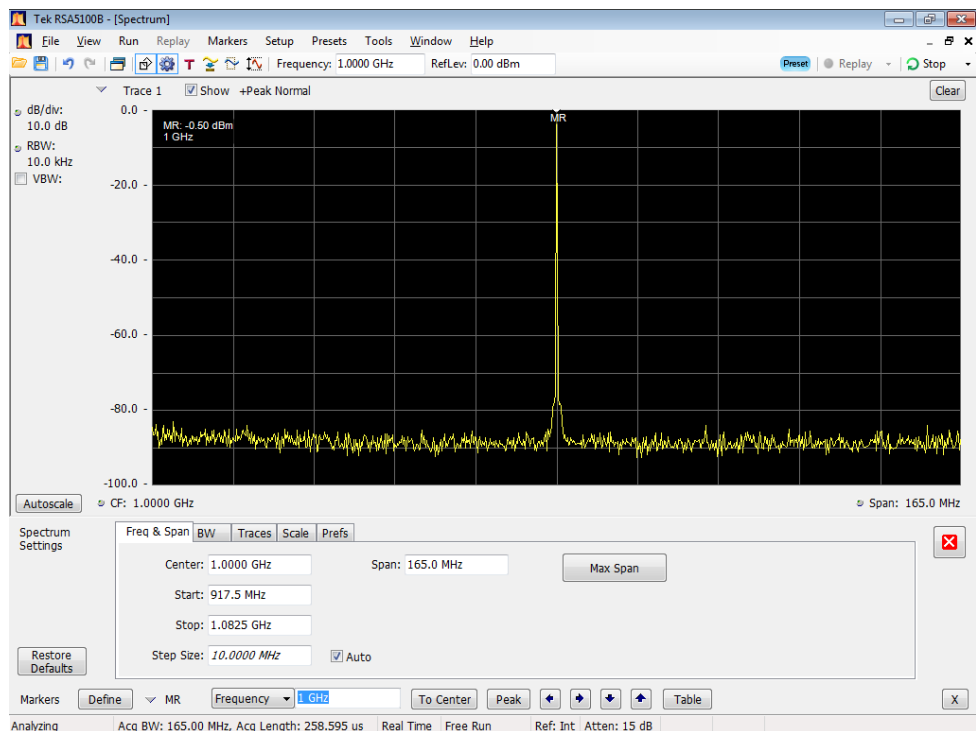

Figure 9: 1 GHz output waveform – Filter set to Low Pass
12. Check that the Channel 1 waveform is properly displayed on the signal analyzer screen. (See Figure 9.)
16. Check that the Channel 1 waveform is properly displayed on the signal analyzer screen. (See Figure 9.)